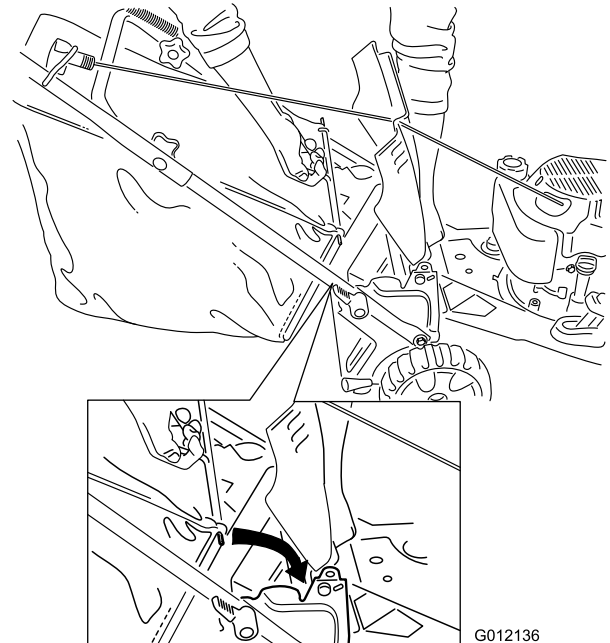

Figure 17
2. Raise and hold up the rear door, install the bag in the notches, and lower the rear door (Figure 17).